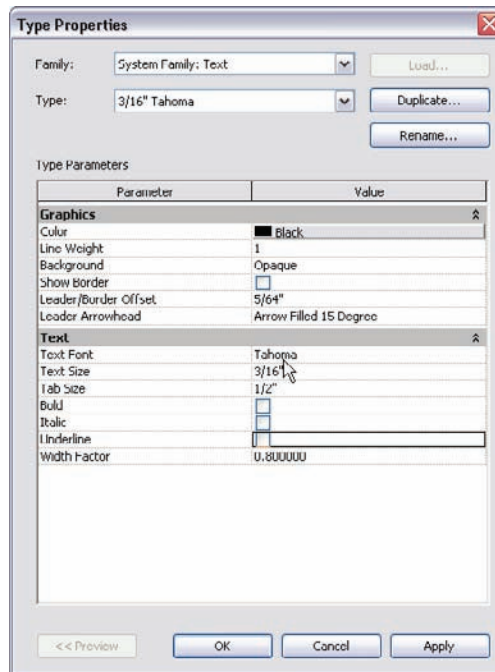

FIGURE 5.55 Changing the text values in the Type Properties dialog box
6. Change the Text Size setting to 3/16" (3.5mm), as shown in Figure 5.55.